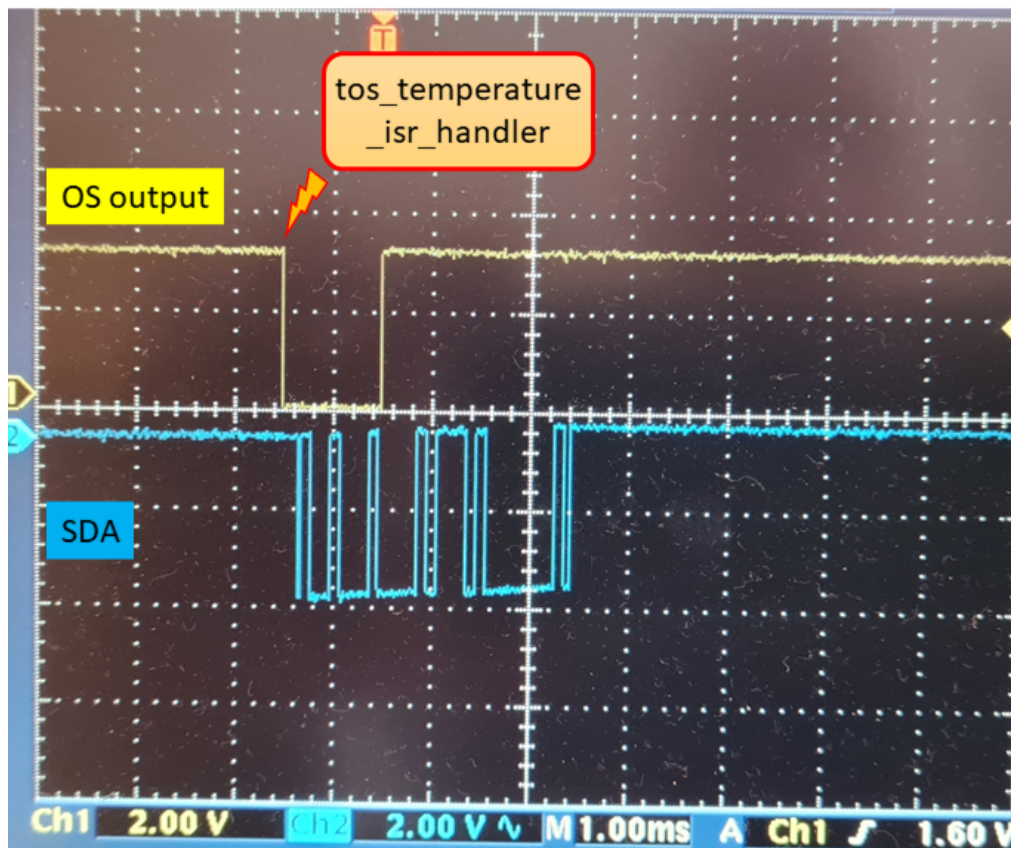

FIGURE 2.8 – Capture of the SDA and OS output.
5. Blow on the sensor to raise the temperature until the interrupt is triggered. You must have the capture shown in the figure 2.8. Explain the behavior.